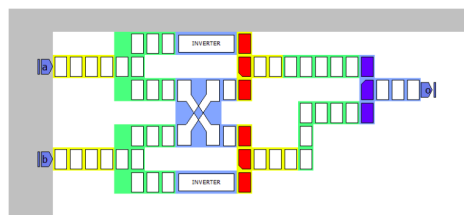

Figure 1.6: MagCAD circuit example
- Chose File ↵ Open, navigate to the directory where you saved the given files and select the file “inml test.qll”. The iNML circuit should appear in the main Window, Figure 1.6;